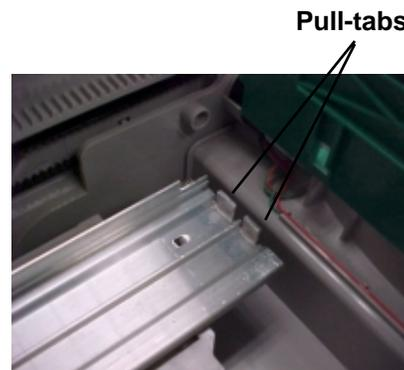

Figure 6
- To access the adjustment scales in the guide-holes, select either the left or right guide-rail to begin. Grasp the pull-tab at the end of the rail, shown in Figure 6 and pull forward while lifting up slightly. It is important to lift up the rail while pulling it forward in order to clear the rail stop near the front of the cassette. The guide rail should slide forward until it touches the front of the cassette (see Figure 7). The guide rail is under spring pressure, so you will need to apply constant pressure to keep the rail in this position during the adjustment.